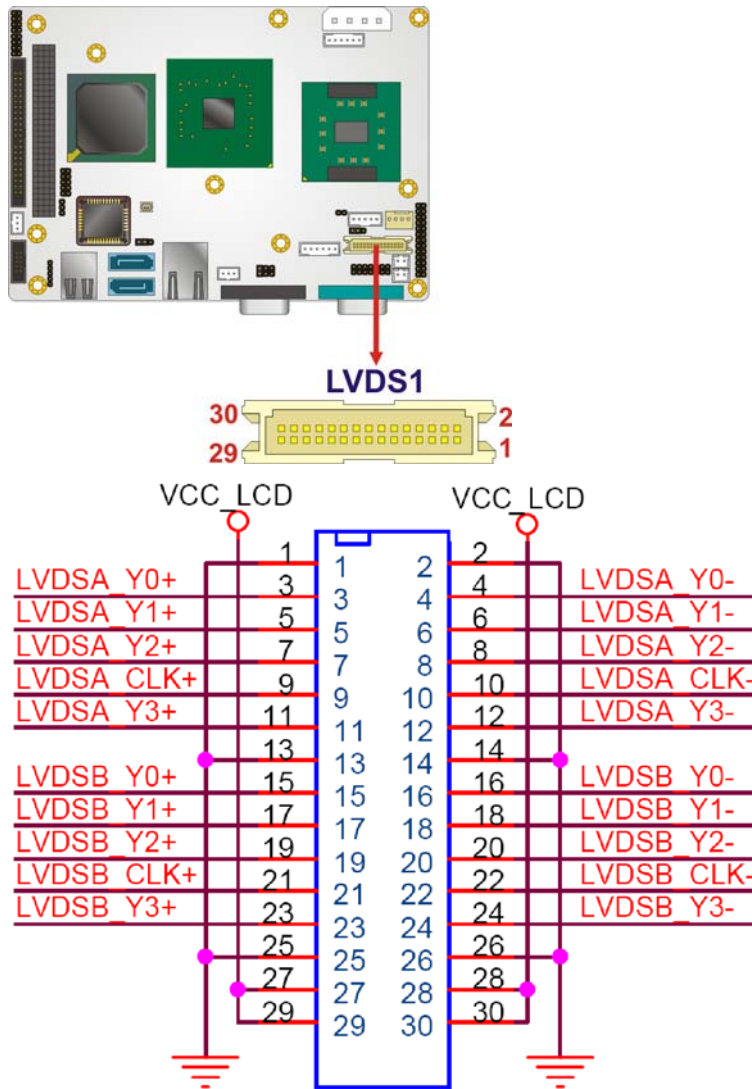

Figure 4-14: TFT LCD LVDS Connector Pinout Locations
- CN Location:** See **Figure 4-14**